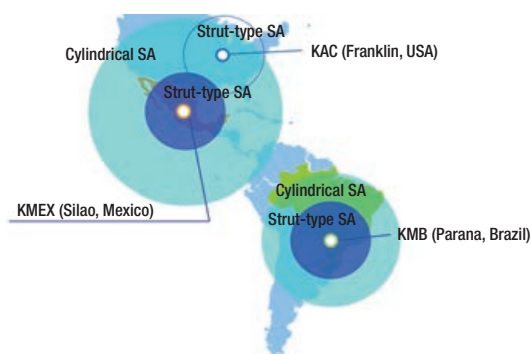

Fig. 1 KYB's production strategy in the Americas
The automobile market in the Americas continues to be active, and customers continue to move south. The advancement of automobile-related companies in Mexico is especially remarkable. KYB has also been successful in our sales expansion activities in the region, requiring us to strengthen our production capabilities. After considering the supply system for the overall production plants in the Americas (KAC/KMEX/KMB) while also considering customer trends, we have decided to establish a shock absorber (SA) plant in KMEX to enhance our production system (Fig. 1).